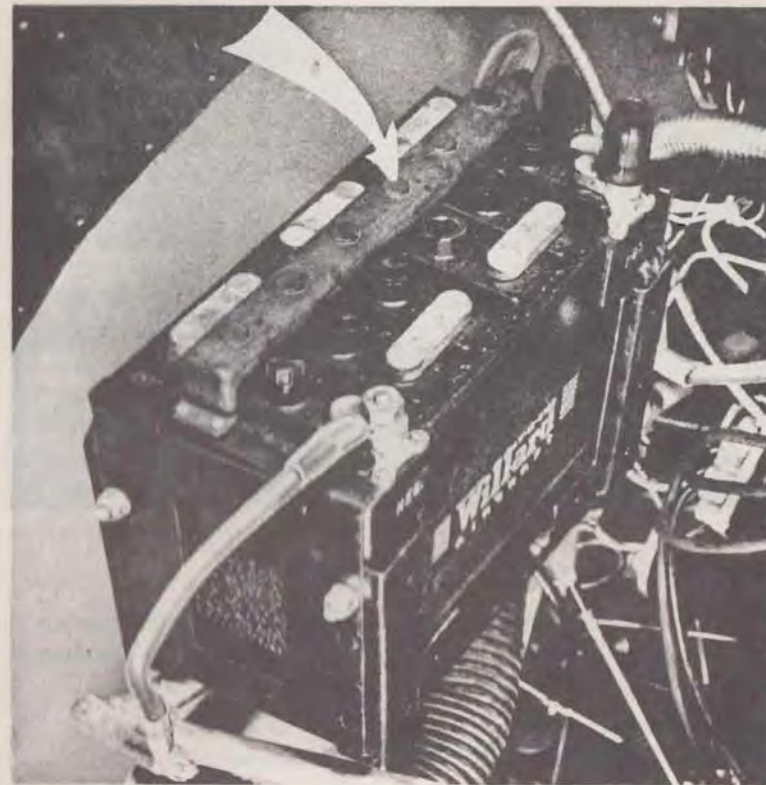

Figure 8—Battery Filling
15. Fill Willard batteries as follows. Batteries with vented plugs are to be filled to level of visible baffle plate. Batteries with sealed plugs are to be filled to top of plug chamber WHILE SEALING VENT WITH FINGER OR BY PRESSING BUTTON ADJACENT TO PLUG. (See figure 8). Water will recede in these latter batteries to assume the correct level. Do not attempt to keep the plug chamber filled.